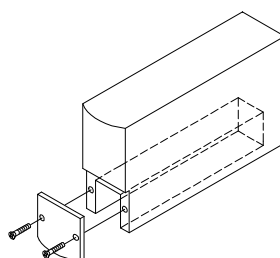

Figure 1
2. Prepare bottom of door. If bottom of door has not been prepared prior to pivot installation, mortise per dimensions on reverse side. The bottom of the door must have a removable heel section (Figure 1).